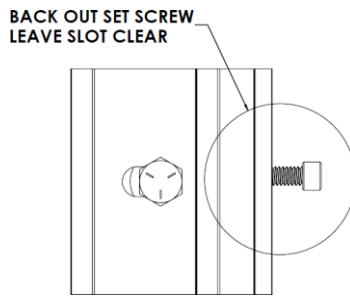

Figure 131: **Loosen the Ceiling Bracket Set Screw So No Threads are Visible in the Bracket Channel**
- Loosen the set screw on the ceiling bracket so no threads are visible in the bracket channel (Figure 131).